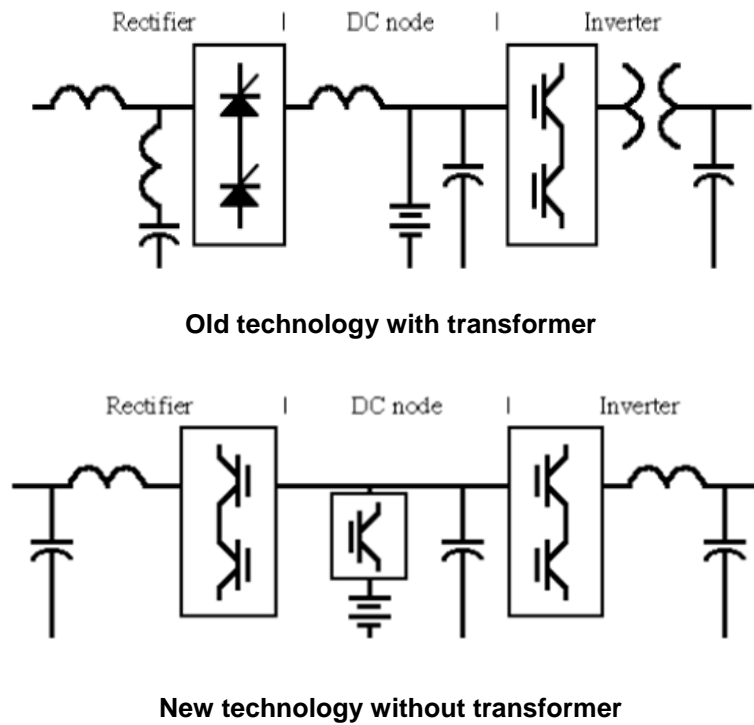

Figure 1: Simplified schematics of legacy and modern transformerless technologies.
Figure 1 illustrates the basic topology of the legacy and transformerless technology UPS powertrain. A phase-controlled rectifier, while efficient and cost effective, produces large harmonic input currents and reduced input power factor which is unacceptable at many sites and incompatible with some generators. Large input inductors and harmonic filters are needed to bring the harmonics down to 5 to 10 percent total harmonic distortion (THD) and power factor (PF) up to >0.99 PF. These components add cost and weight and increase footprint, while the large numbers of capacitors reduce mean time between failures (MTBF). In addition, they do not hold THD down and PF up over a wide load range. They are typically effective only above 60 percent of full load. At light loads below approximately 40 percent, the input PF can actually become leading and will cause incompatibility with generators. The PF also varies with line voltage but is only specified at nominal line.